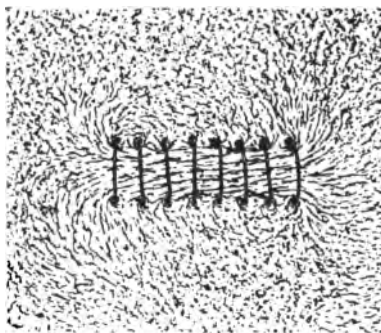

FIG. 234. — Magnetic flux around a coil.
(1) We may thread a loose coil of copper wire through a board or sheet of celluloid in such a way that when iron filings are evenly scattered over the smooth surface of the board, while a strong current is sent through the wire, they will indicate the lines of magnetic force (Fig. 234). By tapping the board gently and using a small compass, we can see the general direction of the lines of magnetic flux. It will be noticed that there are a few circular lines around each wire, and that these lines go out between the loops. They are called the "leakage flux" of the coil.